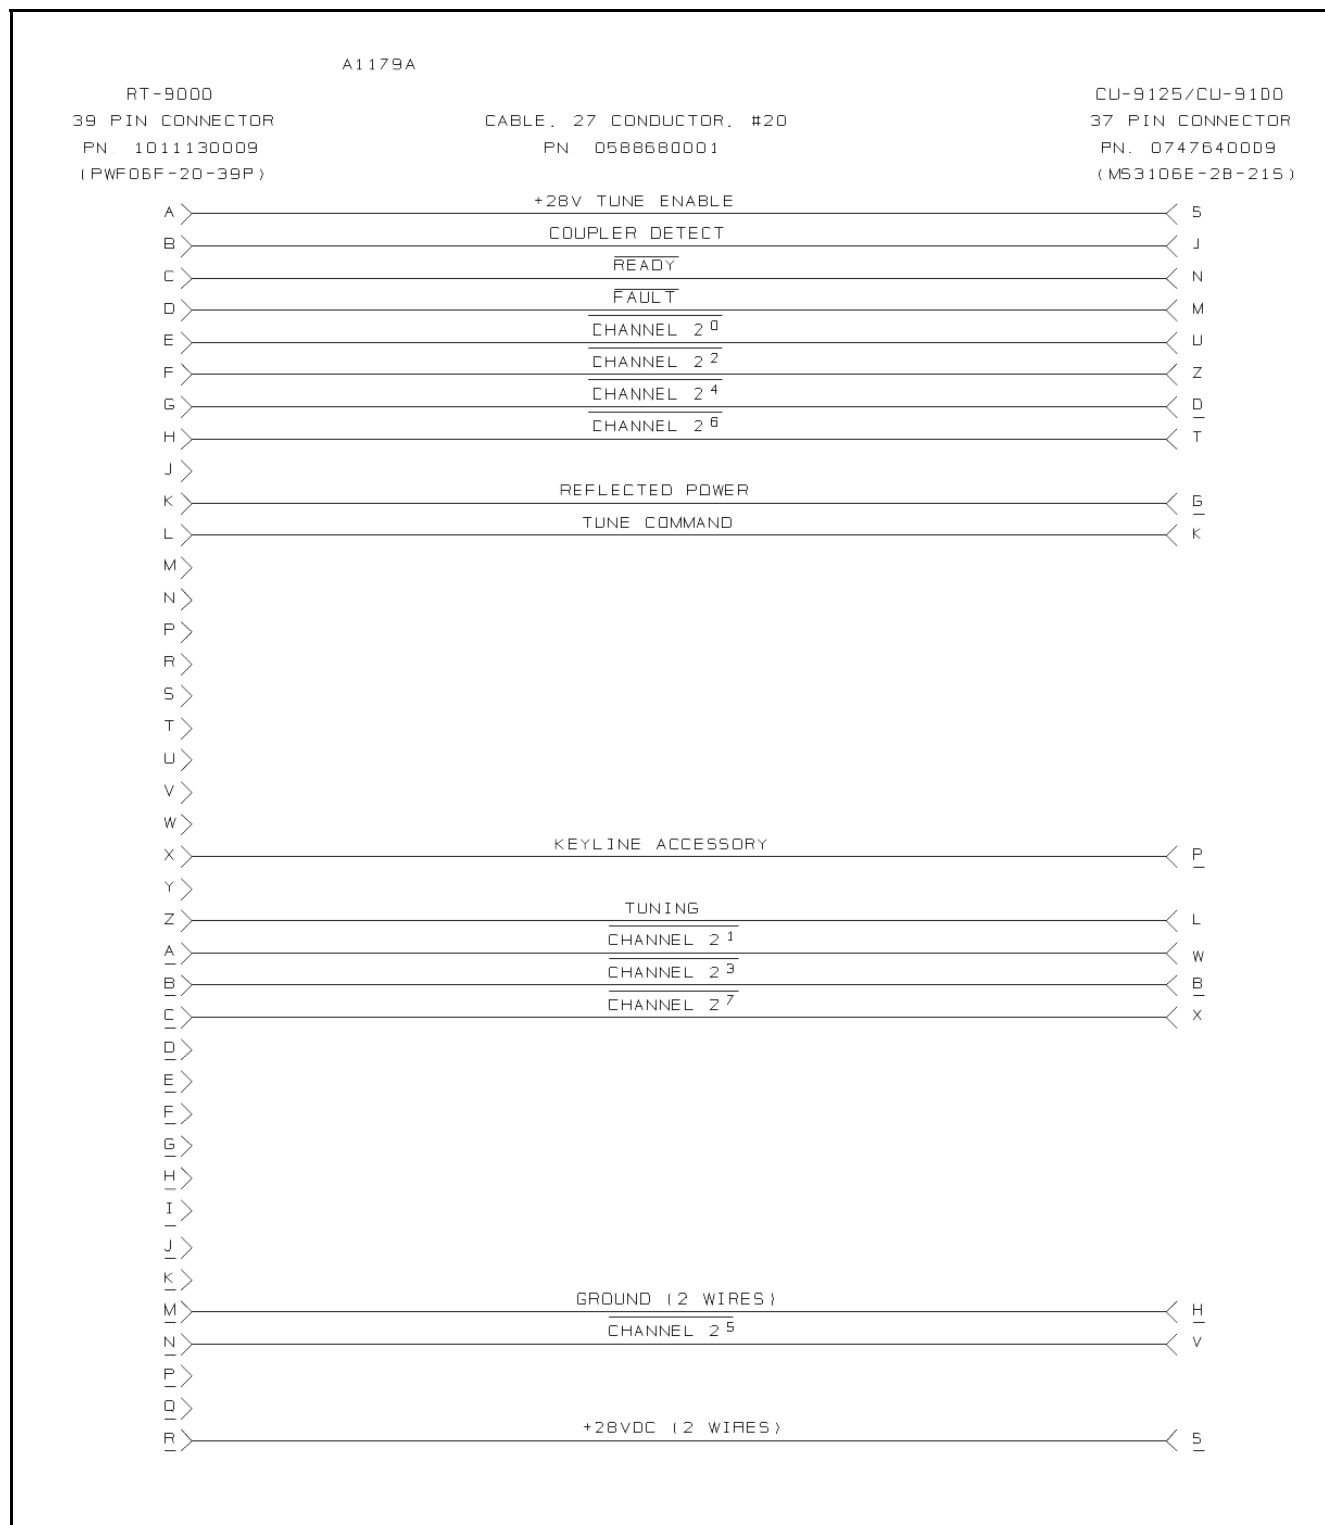

Figure 2.9 Wiring Diagram, Control Cable Assembly (8076004195)
12. Follow an identical procedure to connect the other end of the cable to the proper pin as shown in Figure 2.9.